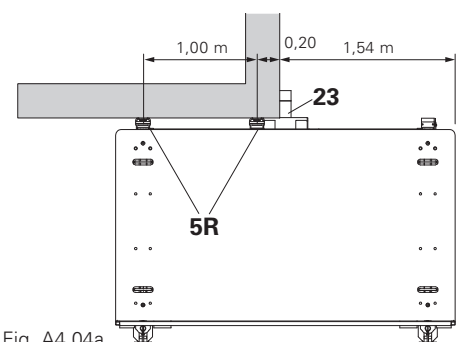

Fig. A4.04a
- Mounting Heads (5) in position (5R).
- (Fig. A4.04a)